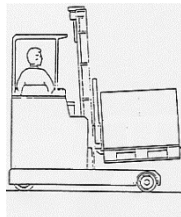

fig. 6
7. Lower the load carefully and smoothly to the correct travelling position. Apply sufficient back tilt to stabilise the load before checking the way is clear and moving off. (See *fig. 6*)